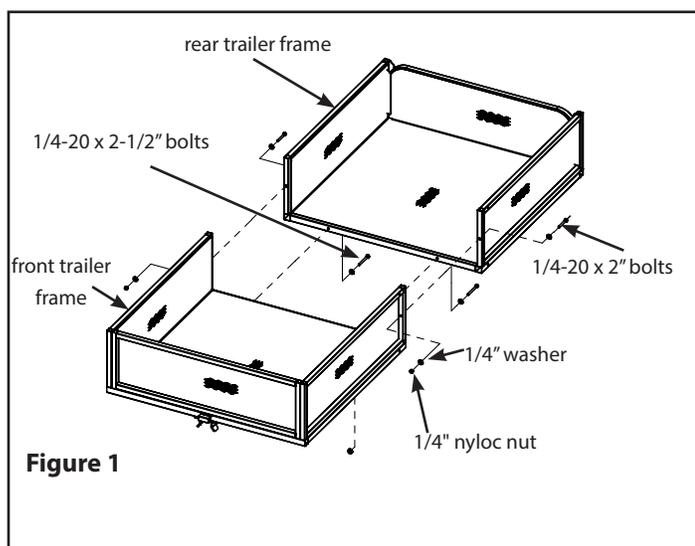

Figure 1
1. Attach front trailer frame (300713) and the rear trailer frame (300710) together using provided (2) 1/4-20 x 2" bolts, (2) 1/4-20 x 2-1/2" bolts, (4) nyloc nuts and (8) 1/4" washers. **SEE FIGURE 1.**